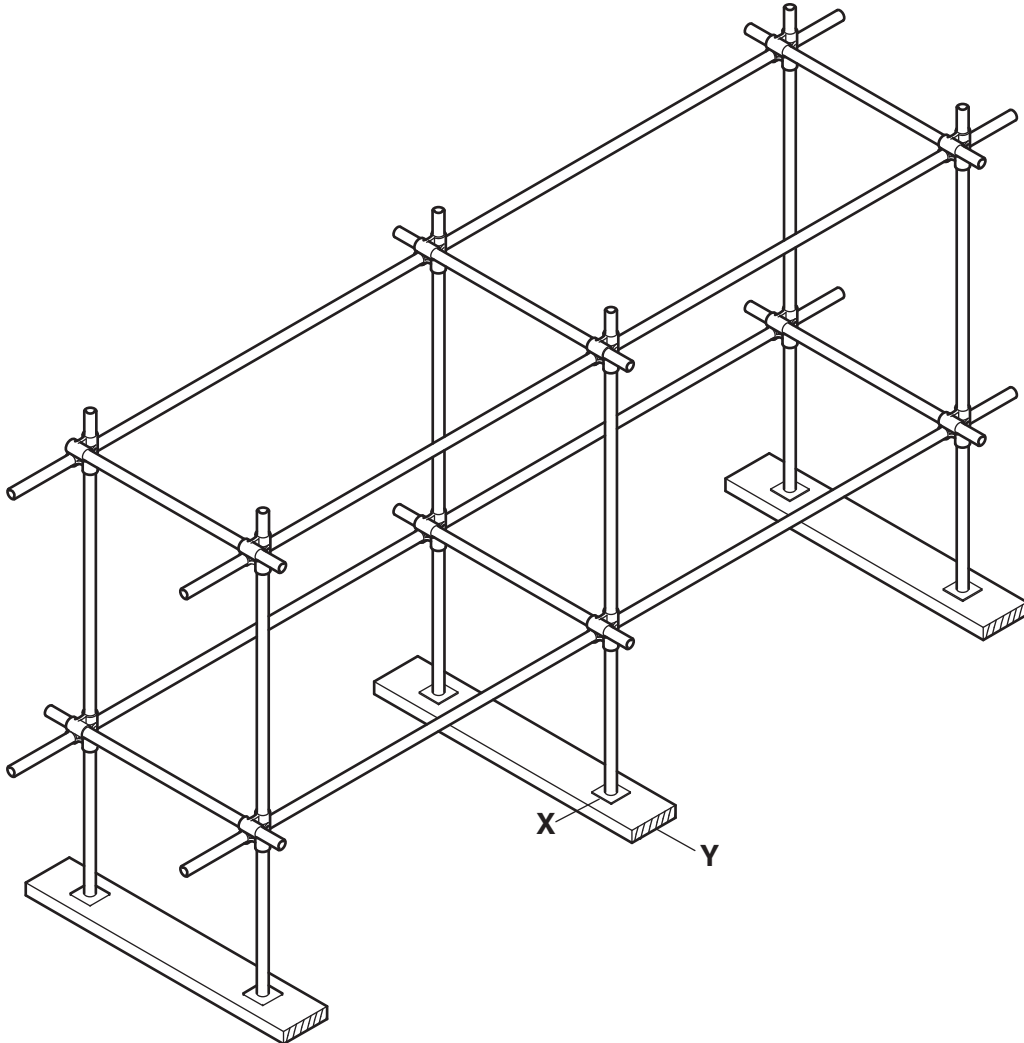

Fig. 5
- 10 Fig. 5 shows the initial design for a scaffold to give safe access while building work is carried out.
- (ii) Draw on Fig. 5 **three** additional scaffolding poles to make the structure rigid and safe from collapse. [3]